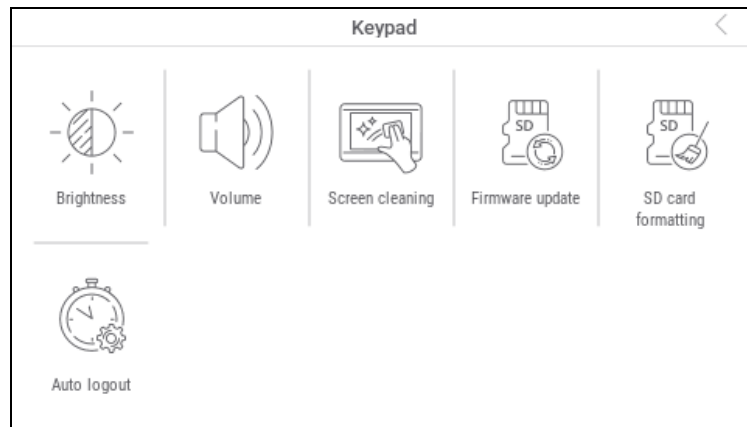

Fig. 40. "Keypad" screen.
6. Tap the "Keypad" function. The "Keypad" screen will be displayed (Fig. 40).
3. Tap the "Keypad" function. The "Keypad" screen will be displayed (Fig. 40).
3. Tap the “Keypad” function. The “Keypad” screen will be displayed (Fig. 40).